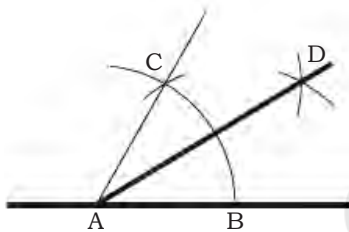

Fig. 1.9: Constructing an angle of  $30^\circ$
3. Join AD. Angle DAB is of  $30^\circ$ (Fig. 1.9).